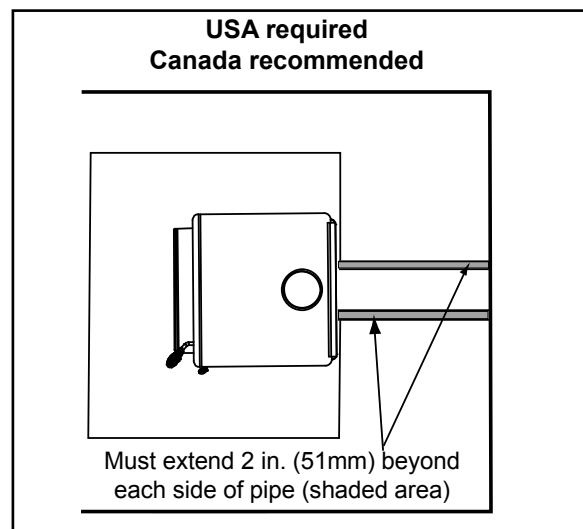

Figure 12.4
***EXCEPTION:** Non-combustible floor protections must extend beneath the flue pipe when installed with horizontal venting and extend 2 inches (51mm) beyond each side. **See Figure 12.4.**